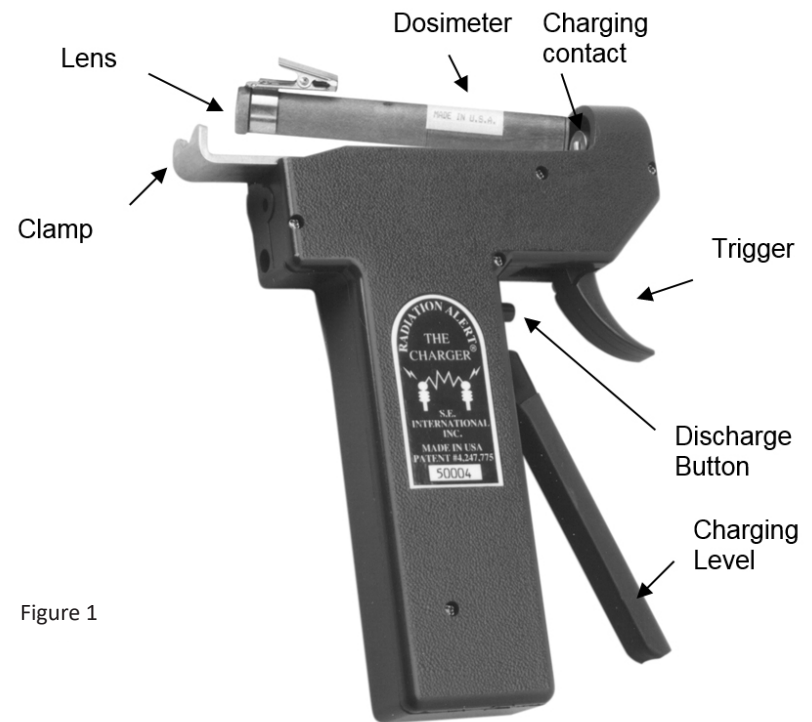

Figure 1
The Radiation Alert Charger (fig. 1) is used to zero a variety of quartz or carbon fiber dosimeters. The Charger controls the movement of the hairline fiber inside the dosimeter. When the fiber is on zero, the dosimeter is fully charged/zeroed. It is powered by a piezoelectric generator. The CHARGER requires absolutely no batteries.
1. Hold the charger upright as shown in fig. 1. Lift the clamp and pull it back to the approximate length of the dosimeter. Place the dosimeter in the clamp with the recessed end (opposite the lens) over the charging contact. This allows for the electrical contact between the dosimeter and the Charger.